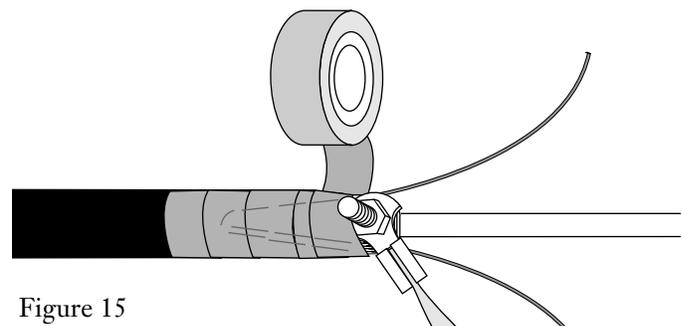

Figure 15
**5.4** Cover the grounding clamp and split portion of the sheath with vinyl tape as shown in Figure 15.